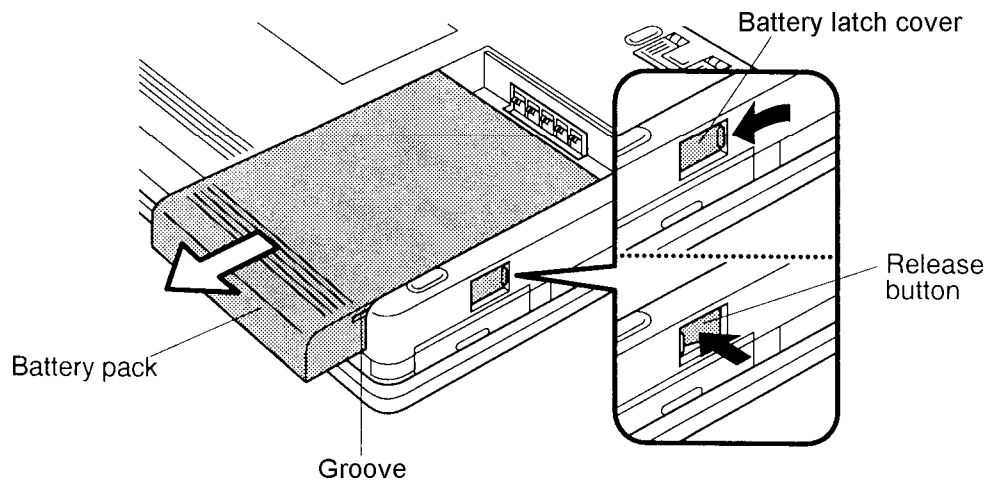

Figure 4-1 Removing the battery pack
To remove the T2450CT battery pack, follow the steps below and refer to figure 4-1.
3. Slide open the **cover** to the battery latch and press the **release button** until it clicks. The battery will pop out slightly (figure 4-1).
4. Firmly grasp the **battery pack** and pull it out (figure 4-1).
To install the T2450CT battery pack, follow the steps below and refer to figure 4-1:
2. Push the **battery pack** in until it locks into place (figure 4-1).